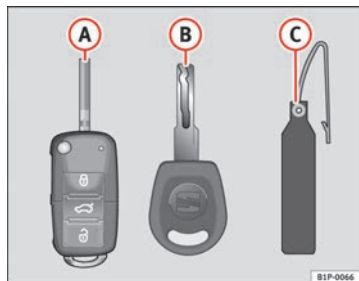

Fig. 45 Set of keys
- a remote control key ⇒ fig. 45 **A**